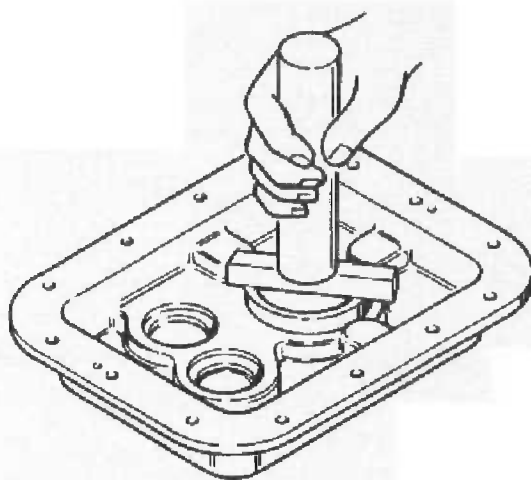

Figure 30 — Seating bearing cups on housing
- b. Coat tapered bearing cup with an SAE 20 (or heavier) oil and drive or press cup squarely into the housing bore until fully seated. Use a press or steel bar as shown in Fig. 30, below left.